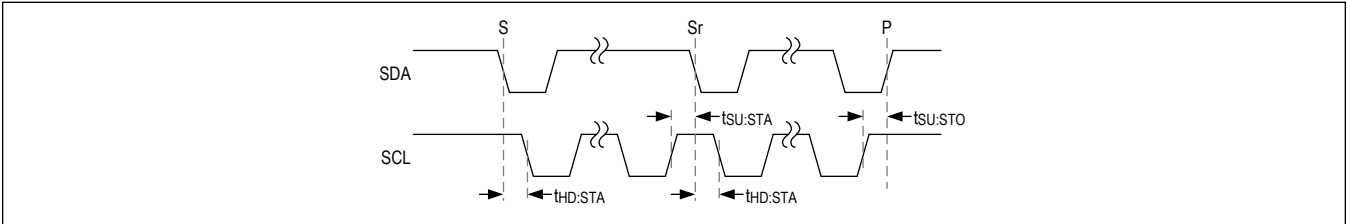

Figure 5. START, STOP and REPEATED START Conditions
A master device initiates communication by issuing a START condition. A START condition is a high-to-low transition on SDA with SCL high. A STOP condition is a low-to-high transition on SDA while SCL is high (Figure 5). A START (S) condition from the master signals the beginning of a transmission to the MAX16984A . The master terminates transmission, and frees the bus, by issuing a STOP (P) condition. The bus remains active if a REPEATED START (Sr) condition is generated instead of a STOP condition.